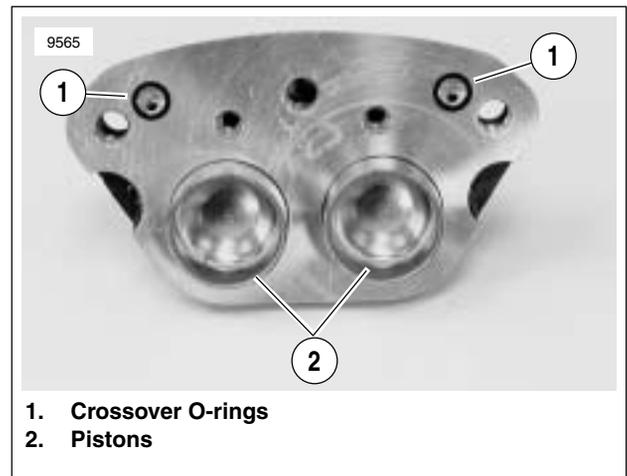

Figure 2-56. Crossover O-rings and Pistons
4. See Figure 2-56. Remove and discard both crossover O-rings (1) from inside caliper housing.